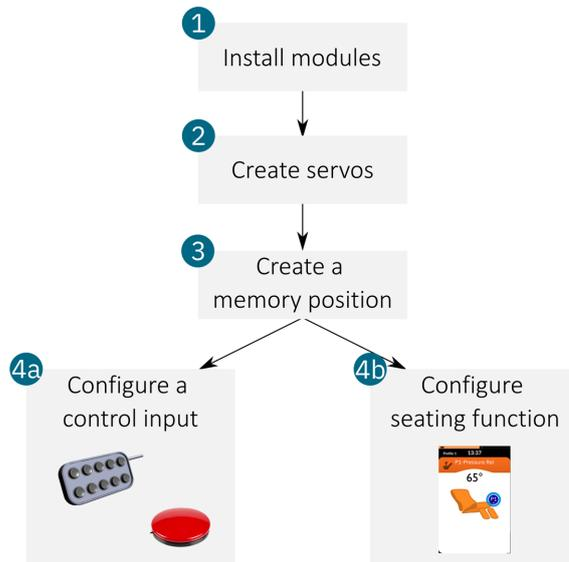

Figure 113: Setting up a memory position in four steps
Figure 113 shows the four steps to install and configure a LiNX system with memory positions. It starts with installing the necessary modules (1), creating the servos (2), and then creating a memory position (3). After creating the memory position, you then have a choice on how to operate it: you can either set up a control input (4a), for example, a buddy button, or set up a seating function (4b) to operate it from a remote module.